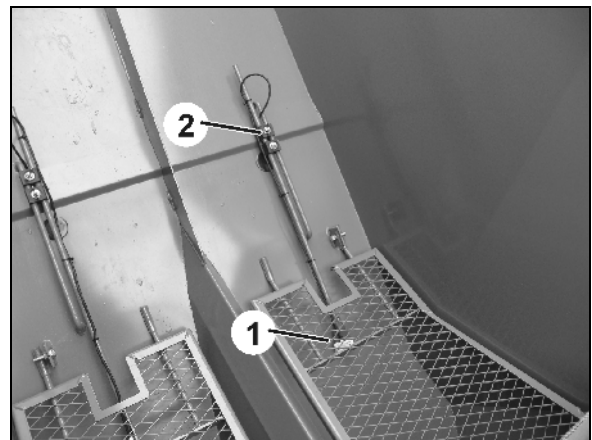

Fig. 61
3. Slacken thumb nut (Fig. 61/2).
4. Adjust the level of the filling level sensor (Fig. 61/1) according to the desired residual amount of seed.